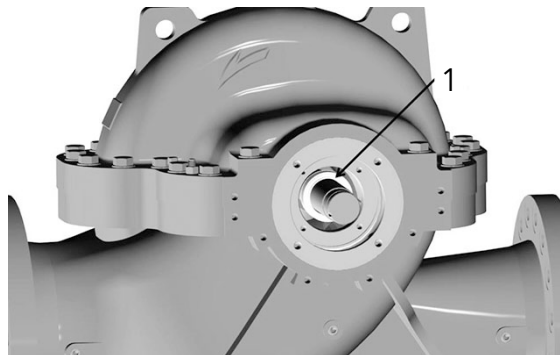

Figure 38: Mechanical seal placement on outboard (opposite of coupling) end of shaft
3. First insert the shoulder ring on the shaft (only at outboard bearing side) and then lightly coat the outboard end of the pump shaft with P-80 Rubber Lubricant Emulsion, vegetable oil, or equal and slide the mechanical seal head onto the shaft. Do not compress the seal spring at this time. (see Figure 38)